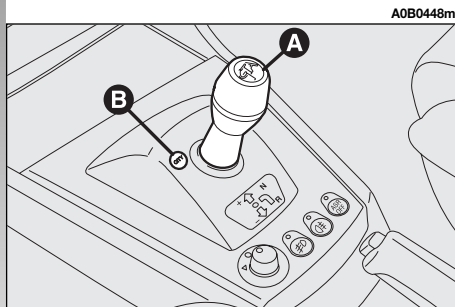

fig. 120
- the control lever on the centre console (**A-fig. 120**);
The **MANUAL** operating mode is set when, with the **CITY** mode selected, the **CITY** button (**B-fig. 120**) is pressed again, excluding the previously selected mode.